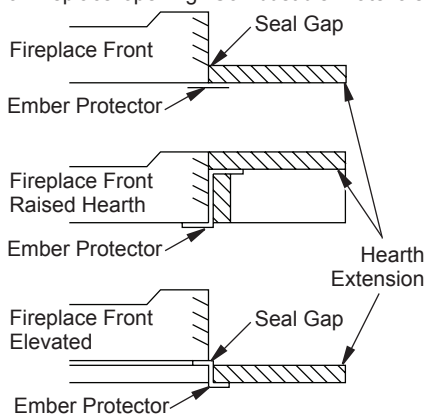

Figure 5 - Hearth Extension
1. The location must allow for proper clearances (see Figures 5 and 6).
Thermal conductivity "K" of materials can be obtained from manufacturer or supplier of noncombustible material. If hearth extension is to be covered, use noncombustible material such as tile, slate, brick, concrete, metal, glass, marble, stone, etc. Provide a means to prevent hearth extension from shifting and seal gap between fireplace frame and hearth extension with a noncombustible material (see Figure 5).